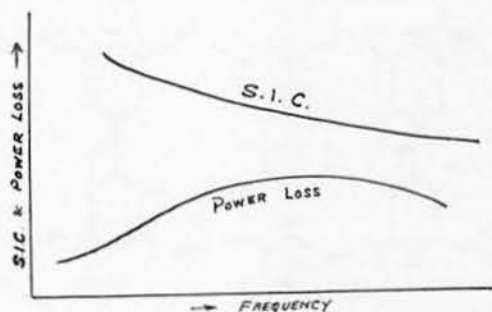

Fig. 1.
In an alternating field the movement of charged ions or the rotation of the polar molecule or repeater unit has to follow the alternations of frequency and since the molecular and ionic movements are opposed by the forces of attraction between molecules and viscosity influences within the medium, there is in general a lag behind the alternations of the electric field, that is a power loss in the material. A measure of the power loss is obviously the power factor, usually expressed as the tangent of the angle of lag, i.e.,  $\tan \delta$ . As frequency increases from zero the greater is the loss factor up to a point at which the frequency becomes so high that the particles cease to respond, and their contribution to the loss factor and to the dielectric constant becomes zero; in other words, the power factor decreases again. In the intermediate region the loss factor passes through a maximum, termed a region of dielectric absorption. If the internal friction is low the absorption takes place at high frequency; if it is high as in glasses and many crystalline solids, the absorption occurs at low frequency. Yager, in a recent paper (1) has studied changes in dielectric constant and loss factor with frequency, and his results illustrate this effect quite strikingly. A typical curve is shown in Fig. 1.